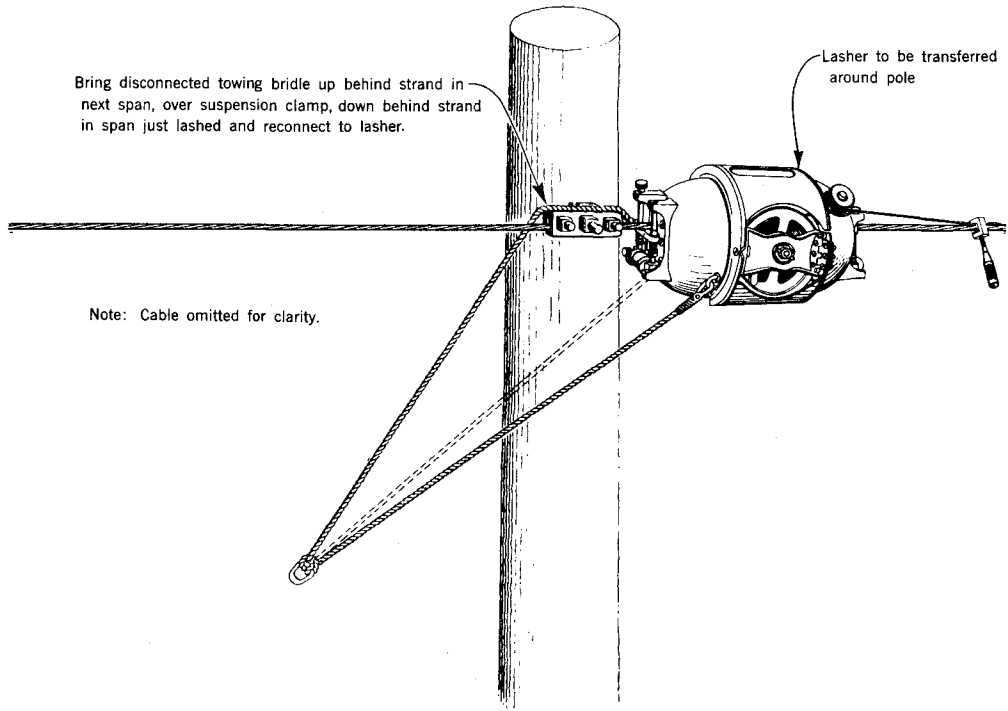

Fig. 27—Method of B Cable Lasher Transfer
- (1) While the towing line is still under tension, clamp the lashing wire to the strand to avoid any possibility of the wire slacking off.
- (2) Pull out sufficient wire for terminating or lashing past a pole.
- (3) Disconnect the towing bridle on the pole side of the lasher.
- (4) Bring the disconnected end of the towing bridle up behind the strand in the next span, over the suspension clamp, down behind the strand in the span just lashed, and reconnect to the lasher (Fig. 27).
- (5) Lock the locking bolt.
- (6) To release the ring pusher, turn the knob in a clockwise direction. Swing the ring pusher and both front and rear cable lifters open to clear the slot. Operate the latches when swinging the cable lifters open.
- (7) Raise the lasher from the strand and place it on the strand in the next span.